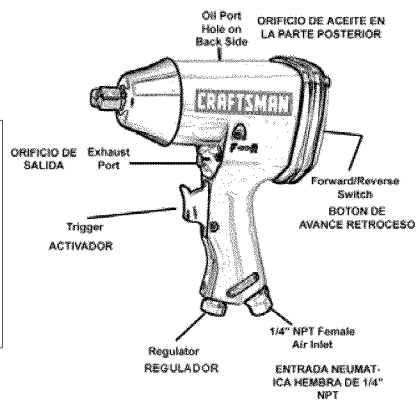

Figure 3
In the event that it becomes necessary to store the tool for an extended period of time (overnight, weekend, etc.), it should receive a generous amount of lubrication through the air inlet (fig 3). The tool should be run for approximately 30 seconds to ensure oil has been evenly distributed throughout the tool. The tool should be stored in a clean and dry environment.
**Recommended lubricants:** Use air tool oil or any other high grade turbine oil containing moisture absorbent, rust inhibitors, metal wetting agents and an EP (extreme pressure) additive. (See Fig. 3 for location/air inlet).